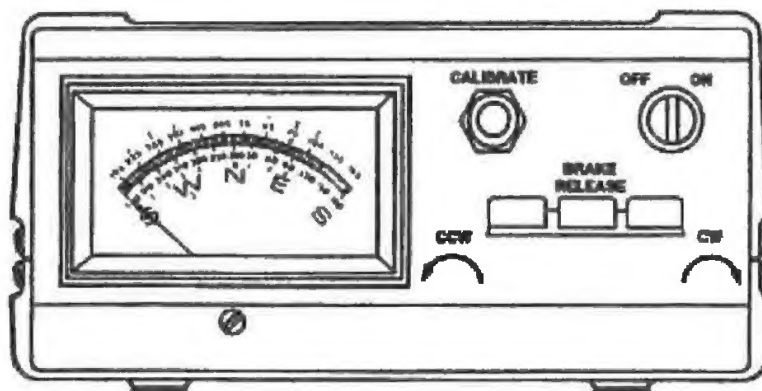

Figure 1
B. Assemble the rotor cable as shown in Figure 1.